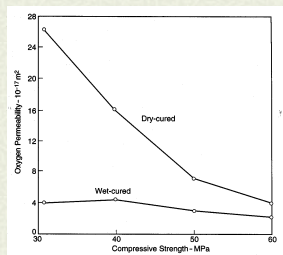

Figure 3 Effect of curing on oxygen permeability (Bassat et al, 1990)
- Curing greatly affects permeability and diffusivity (Fig.3)